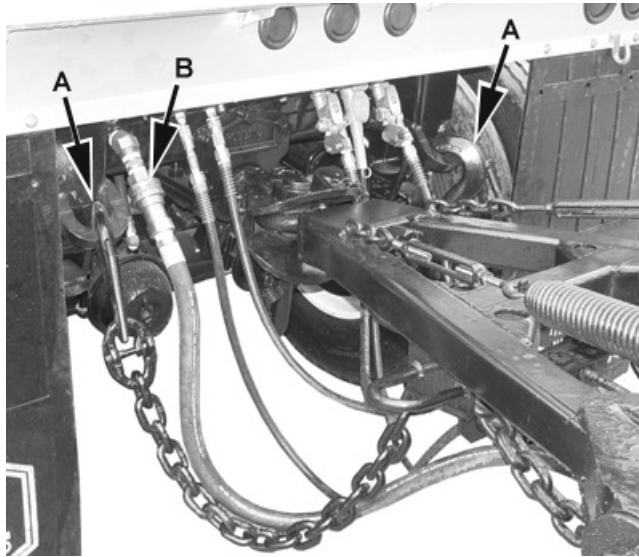

Figure 3-10 Connect To Lead Trailer
*Note: For steps 7-9, refer to figure 3-10.*
7. Connect both safety chain hooks (A) to lead trailer.
8. Connect hydraulic hose (B), tailgate air hose and pup lock air hose.